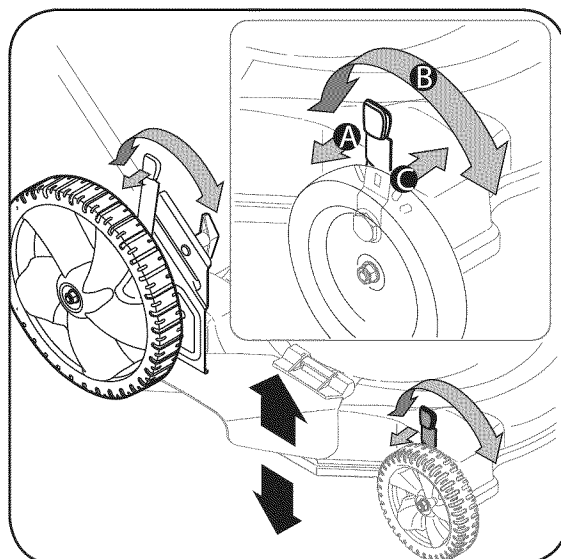

Figure 7
7. Each wheel has a height adjustment lever to change the cutting height of the mower. To change the height of cut, squeeze adjuster lever toward the wheel, moving up or down to selected height. See Figure 7.